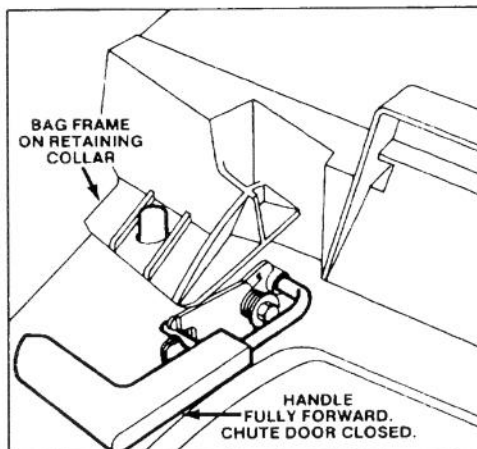

Figure 11
2. Assure chute door handle is fully forward and pin is engaged in catch (Fig. 11).
3. **INSTALLING BAG** — Slide hole in bag frame onto the retaining collar on housing (Fig. 11) and set rear of bag frame onto lower handle.
5. **EMPTYING BAG** – Stop engine and wait for all parts to stop. Move chute door handle forward to engage the locking pin with catch (Fig. 11). Grasp handle at front and rear of bag and lift bag off mower. Gradually tip bag forward to empty clippings.